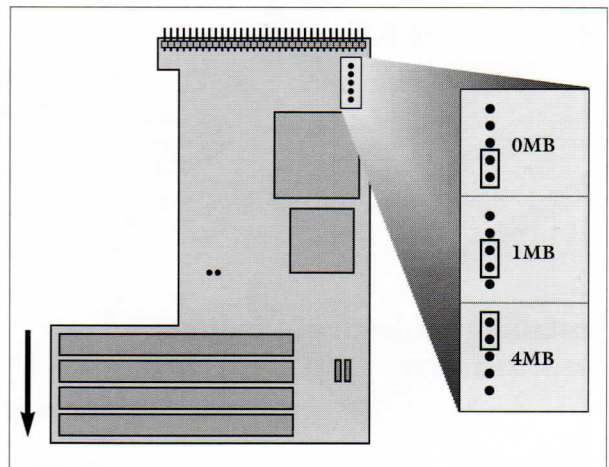

Figure 9 : The memory size jumpers
3. Set the memory size jumper to correspond to the amount of memory you are installing as shown in Figure 9.